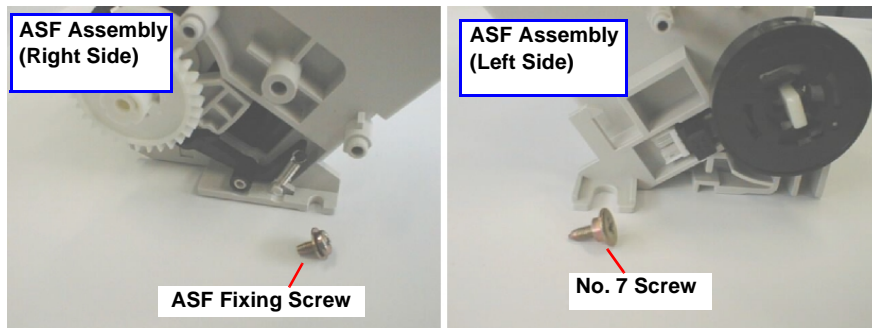

Figure 4-29. Removing the ASF Assembly (1)
- 3) Remove two screws (No.7 and ASF fixing screw) securing the ASF unit to the Bottom Frame. Refer to Figure 4-29.
- Screws for ASF Assembly should be used at the following positions. (Looking from the back of printer). Refer to Figure 4-29.